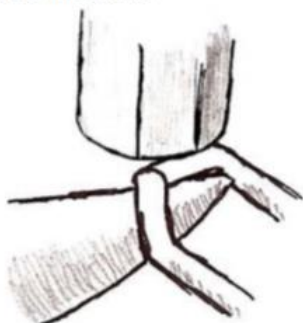

Figure 13: Hammering Sides
- Tap side (figure 13), flip
- Tap other side (figure 13)